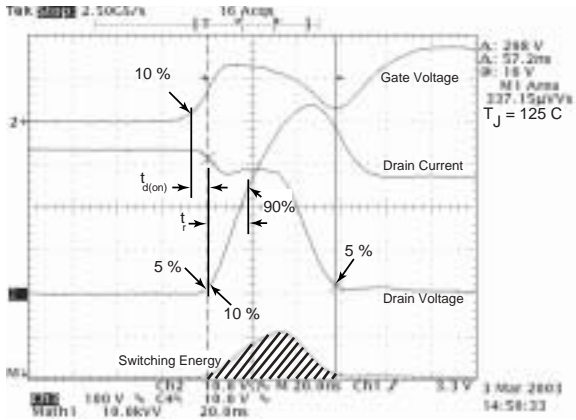

Figure 18, Turn-on Switching Waveforms and Definitions
① Repetitive Rating: Pulse width limited by maximum junction temperature
② Pulse Test: Pulse width < 380  $\mu s$ , Duty Cycle < 2%
③ See MIL-STD-750 Method 3471
④ Starting  $T_j = +25^\circ C$ ,  $L = 3.32mH$ ,  $R_G = 25\Omega$ , Peak  $I_L = 27A$
⑤  $dv/dt$  numbers reflect the limitations of the test circuit rather than the device itself.  $I_S \leq -I_D 27A$ ,  $di/dt \leq 700A/\mu s$ ,  $V_R \leq V_{DSS}$ ,  $T_j \leq 150^\circ C$
⑥  $E_{on}$  includes diode reverse recovery. See figures 18, 20.